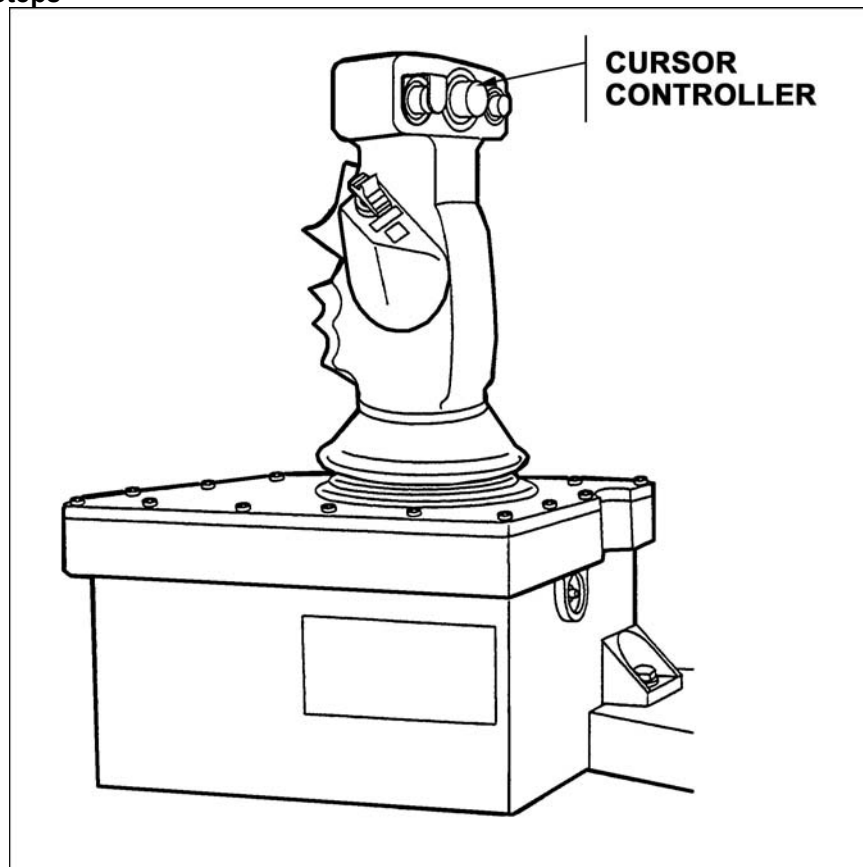

Figure 5. Cursor control.
- (1) Press and release the data keys to input the desired information into the selected field.
- (2) Observe the CTD data field.
- (3) Press and release the arrow keys to move the cursor to the desired position.
- (4) Observe the cursor movement on the CTD.
- (5) Press and release the keyboard light key to adjust the lighting for the keyboard.
- (6) Observe the lighting on the keyboard.
- c. Use the cursor control button on the commander's hand station (CHS)(Figure 5).